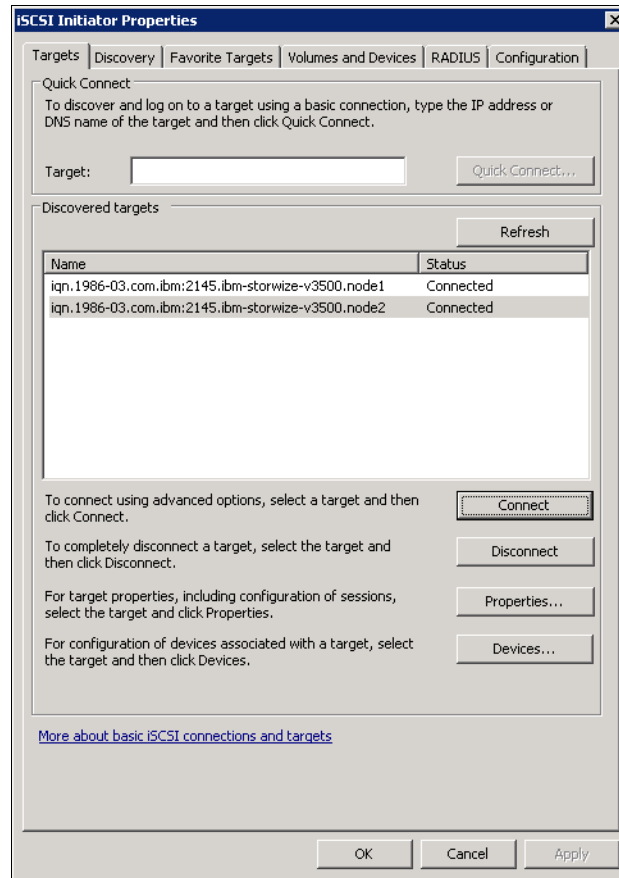

Figure 5-48 Second target port connected
8. Select the **Enable Multipath** option and click **OK**. The second port now appears as **Connected**, as shown in Figure 5-48.